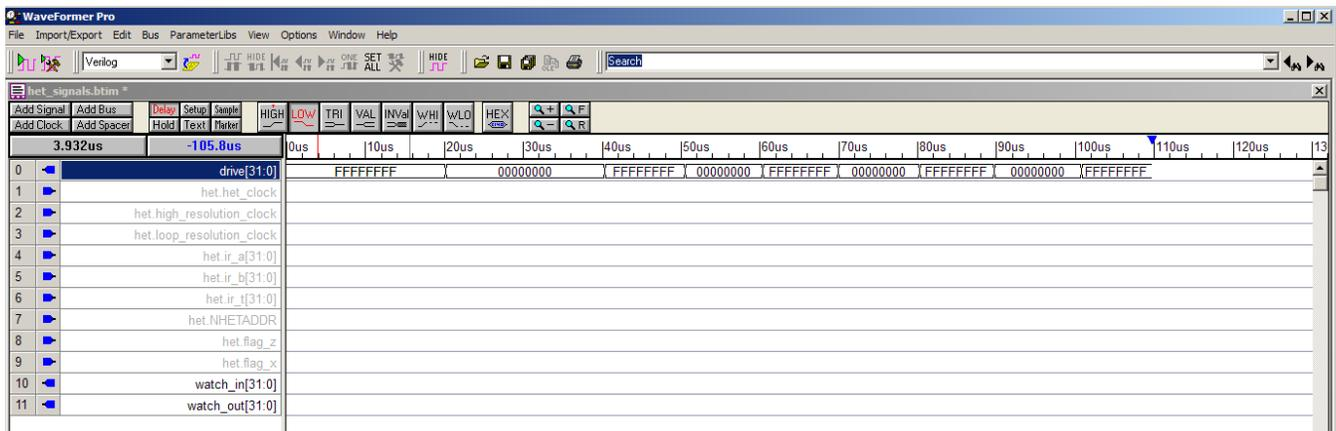

Figure 57. Input Stimulus Drawn Directly in Synaptical Waveformer Pro
- (iii) Keep clicking at distance of 10 μ s. Note that the Waveformer Pro tool automatically alternates the level between high and low as you draw. When complete, your stimulus should look like Figure 57.